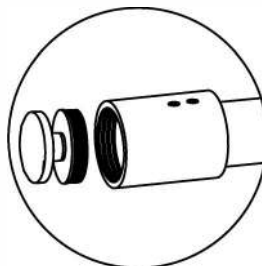

Fig. 18
18. Loosen set screws in Rail Mount Receiver (22) and slide onto left end of top rail (2). See Fig.18 for details.
26. Position the Small Fixed Glass (19) in place against shower wall. Secure the Small Fixed Glass (19) to Top Rail (2) as shown in Fig. 18.